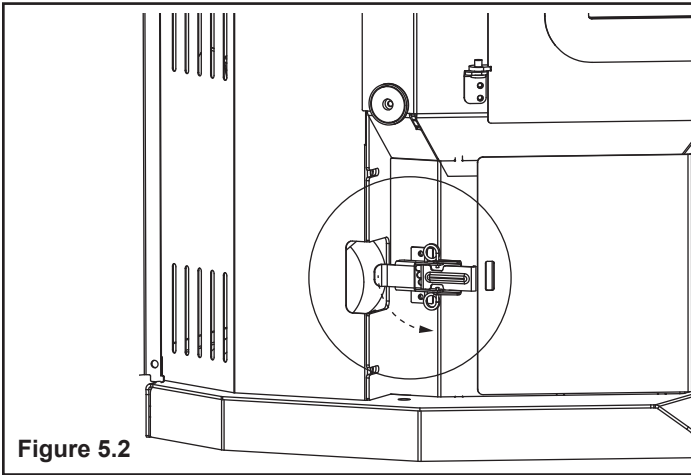

Figure 5.2
2. Release spring latches on the right and left side of the ash pan. Figure 5.2